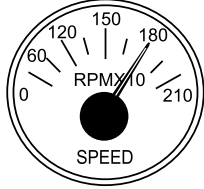

Figure 39. Engine Tachometer Gauge
14. The **tachometer gauge** (Figure 39) will indicate the speed of the engine when the generator is operating. Under normal operating conditions, this speed is approximately 1800 RPM's.